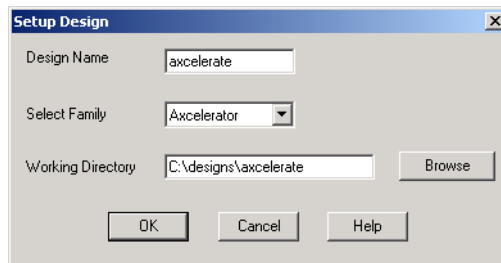

Figure 1-2. Setup Design Dialog Box
1. **Click the *Start New Design* button in the main window, or in the File menu, click *New*.** This displays the Setup Design dialog box, as shown in Figure 1-2.